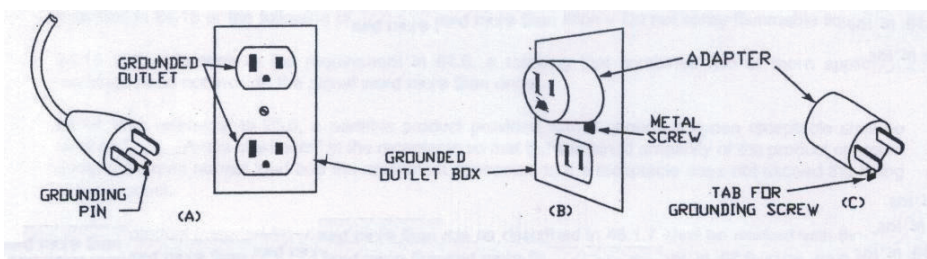

Figure 1.1
b) This product is for use on a nominal 120 or 230-V circuit, and has a grounding plug similar to the plug illustrated in sketch A in Figure 1.1. A temporary adapter similar to the adapter illustrated in sketches B and C may be used to connect this plug to a 2 or 4-pole receptacle as shown in sketch B when a properly grounded outlet is not available. The temporary adapter shall be used only until a properly grounded outlet (sketch A) is installed by a qualified electrician. The green colored rigid ear, lug, or similar part extending from the adapter must be connected to a permanent ground such as a properly grounded outlet box cover. Whenever the adapter is used, it must be held in place by a metal screw. (The temporary adapter is not applicable in Canada.)